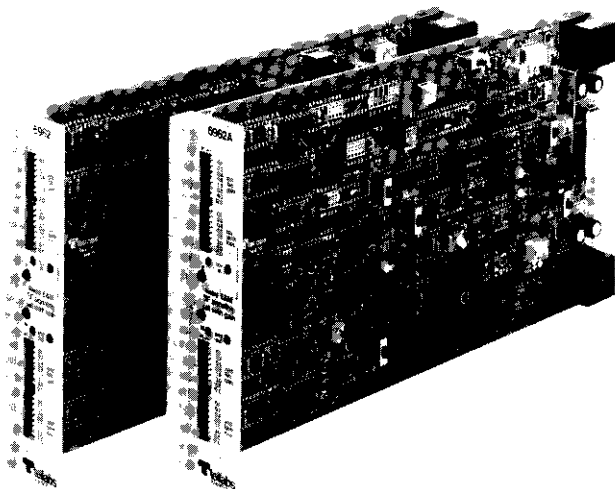

figure 1. 6962 and 6962A 4Wire E&M SF Signaling Set modules with Gain
1.01 The 6962 and 6962A 4Wire E&M SF Signaling Set modules with gain (figure 1) each provide signaling and transmission interface between a 4wire facility that uses single-frequency (SF) signaling and a 4wire trunk (typically, a PBX trunk) or a 4wire line that uses E&M signaling. Both modules provide prescription active level control in the transmit and receive paths as well as full-duplex conversion between the SF signaling on the facility and the E&M signaling on the trunk or line. Both modules can also provide prescription active slope-type amplitude equalization in one or both channels. On the 6962, receive-channel equalization is standard while transmit-channel equalization is optionally available via a plug-on subassembly. On the more economical 6962A, equalization is optionally available in both channels via plug-on subassemblies (one per channel). Conventional 2600Hz SF tone is standard on both modules; other frequencies are optionally available by special order. The 6962 and 6962A differ from ordinary 4wire E&M SF signaling sets (e.g., the Tellabs 6942) in that they contain integral amplifiers to accommodate a variety of facility interface levels.